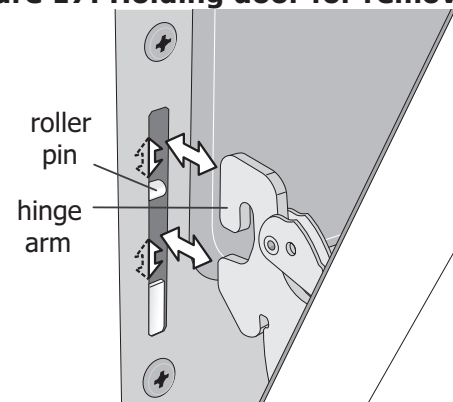

Figure 18: Replacement and location of hinge arm and roller pin
5. Lift the oven door hinge arms over the roller pins located on each side of the oven frame (Figure 18)
2. Holding the oven door at the same angle as the removal position, seat the hook of the hinge arm over the roller pins located on each side of the oven door frame (See Figure 18). The hook of the hinge arms must be fully seated onto the roller pins.